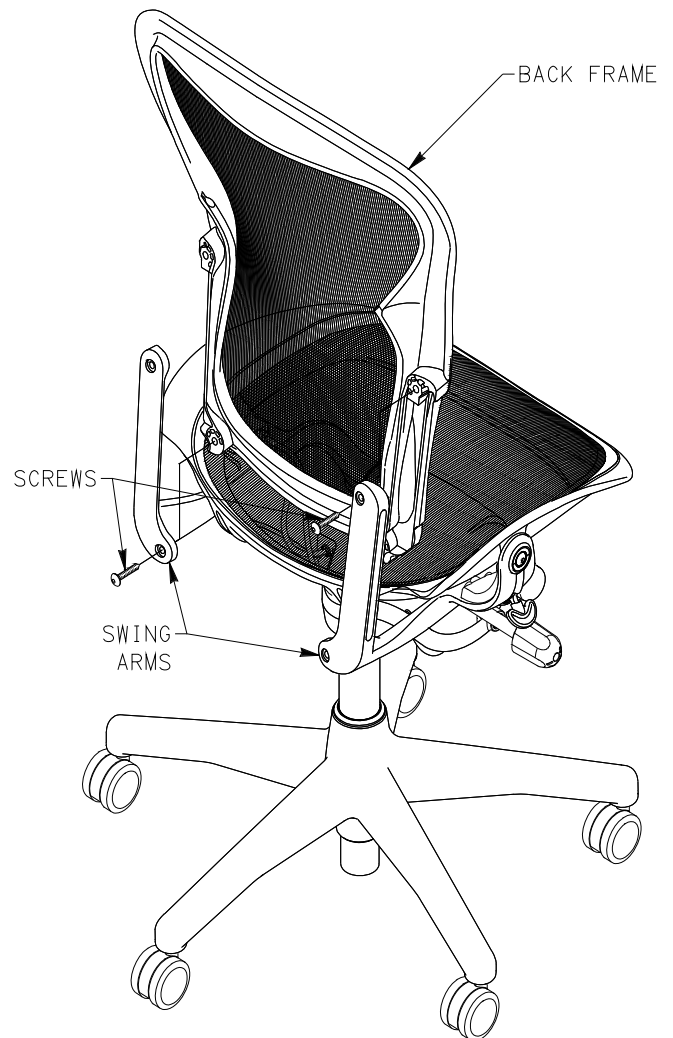

FIGURE 1
1. SUPPORT BACK FRAME. USING RATCHET WRENCH AND 5MM HEX BIT, REMOVE AND SET ASIDE (4) SCREWS ATTACHING BACK FRAME TO SWING ARMS. REMOVE BACK FRAME AND SET ASIDE. SEE FIGURE 1.
5. PLACE BACK FRAME UP TO SWING ARMS ALIGNING HOLES. SECURE WITH SCREWS. USING TORQUE WRENCH AND 5MM HEX BIT, TORQUE SCREWS TO 70-100 IN-LBS. SEE FIGURE 1.